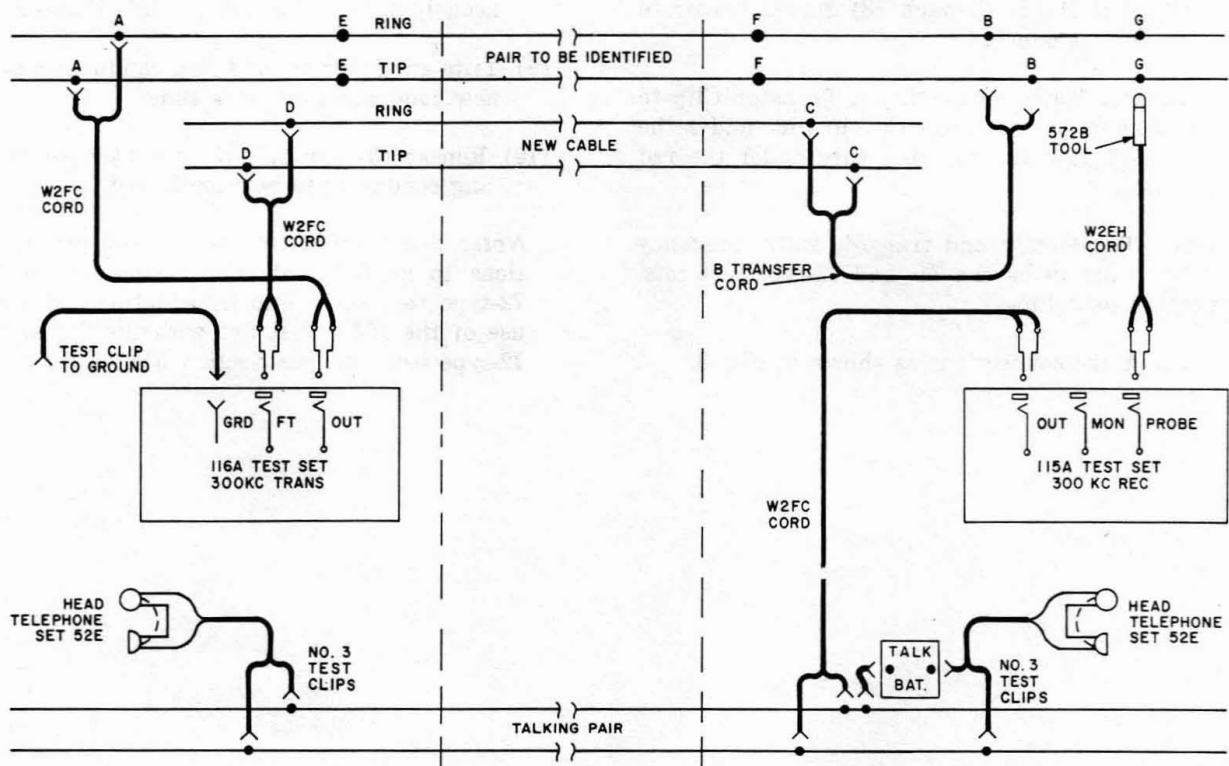

Fig. 2 — Identification and Transfer of Voice-Frequency Pairs Using the 120A Test Set
- (1) Make connections as shown in Fig. 2.
- (2) Operate the T/G, R/G lever switch on the 116A Test Set (transmitter) to the R/G position.